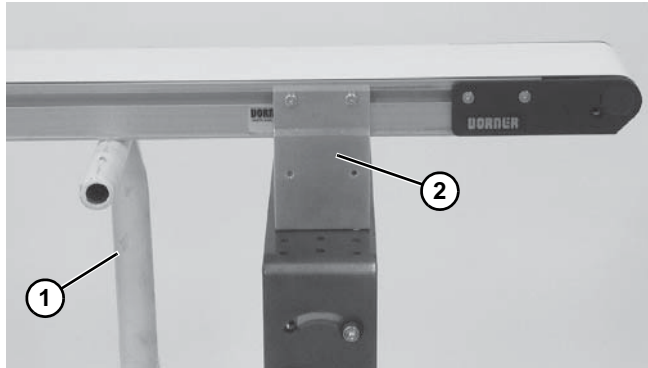

Figure 36
7. Place temporary support stands (**Figure 36, item 1**) at both ends of the conveyor.
8. Remove mounting brackets (**Figure 36, item 2**) from one side of conveyor. (Reverse steps 3 & 4 of “Mounting Brackets” on page 21.)